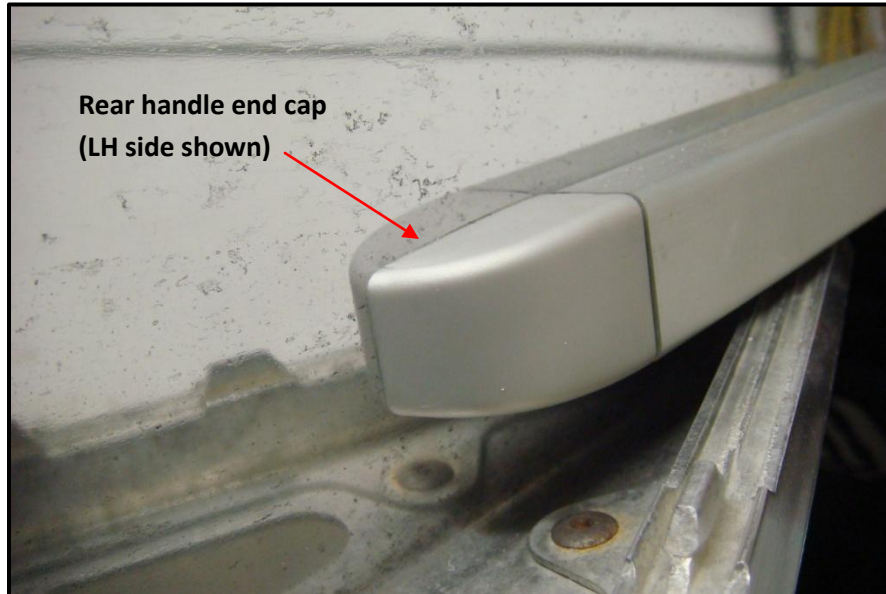

Figure 8 –Rear handle end cap-(shown on the exterior of the LH side of tunnel)
9. With Snow Flap Saver in place, tighten both the front and rear mounting bolts (4) with the M10 wrench. Make sure that the rear handle end cap is pressed all the way into the end of the handle while tightening the front mounting bolt (4) (Figure 8).